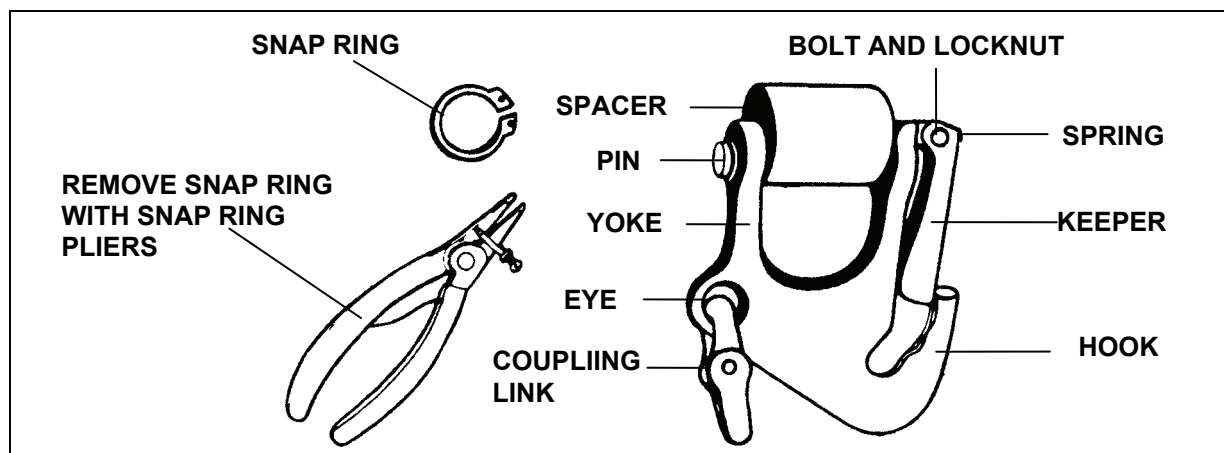

Figure 6-8. Grabhook Assembly
- Grabhook Assembly.** The grabhook assembly (Figure 6-8) is attached to the lower eye of the nylon rope and attaches the nylon rope assembly to the chain. It is used to adjust the chain length. The upper part of the grabhook (the yoke) contains a pin and spacer that are used to attach the nylon rope to the grabhook. A snap ring holds the pin in place. The spacer provides a large diameter surface for the eye of the nylon rope. The bottom part of the grabhook has an eye at one side. The attached coupling link connects the chain to the grabhook assembly. Opposite the eye is a hook into which any selected chain link is inserted to vary the length of the chain